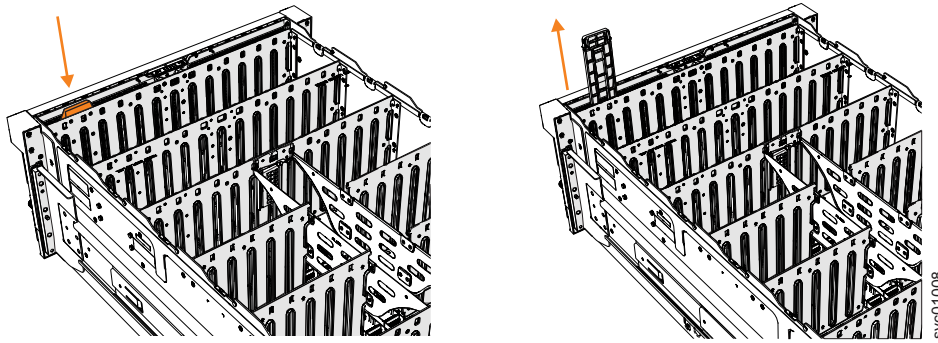

Figure 106. Removing the display panel assembly
3. Press the release tab at the top of the display panel assembly, as shown in Figure 106 on page 124.